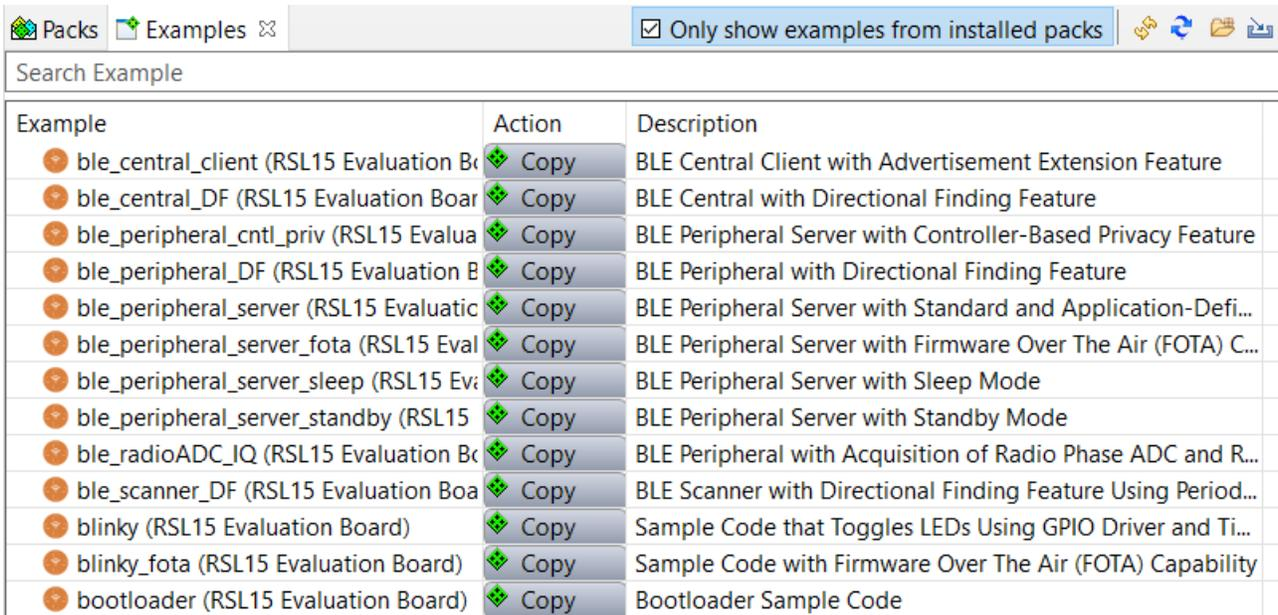

Figure 5. Importing the FOTA Sample Project
2. Find the *ble\_peripheral\_server\_fota* example project and click the **Copy** button to import it into your workspace. (See the "Importing the FOTA Sample Project" figure (Figure 5).)